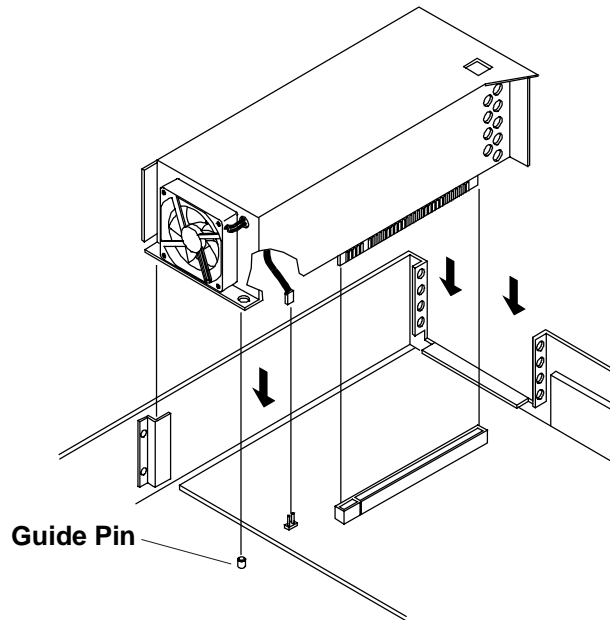

Figure 5-6. Replacing the PCI Card Cage
- a. Align the PCI card cage with the guides on the and left side of the chassis. Lower the PCI card cage and plug the fan into the connector on the system board. See Figure 5-6.
- c. Make sure that the front edge of the PCI card cage is seated on the guide pin. See Figure 5-6.